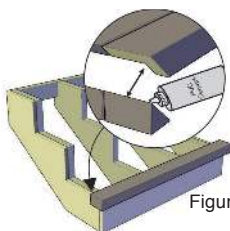

Figure 2
- Miter and pre-assemble the trims and decking for each step (fig. 2).